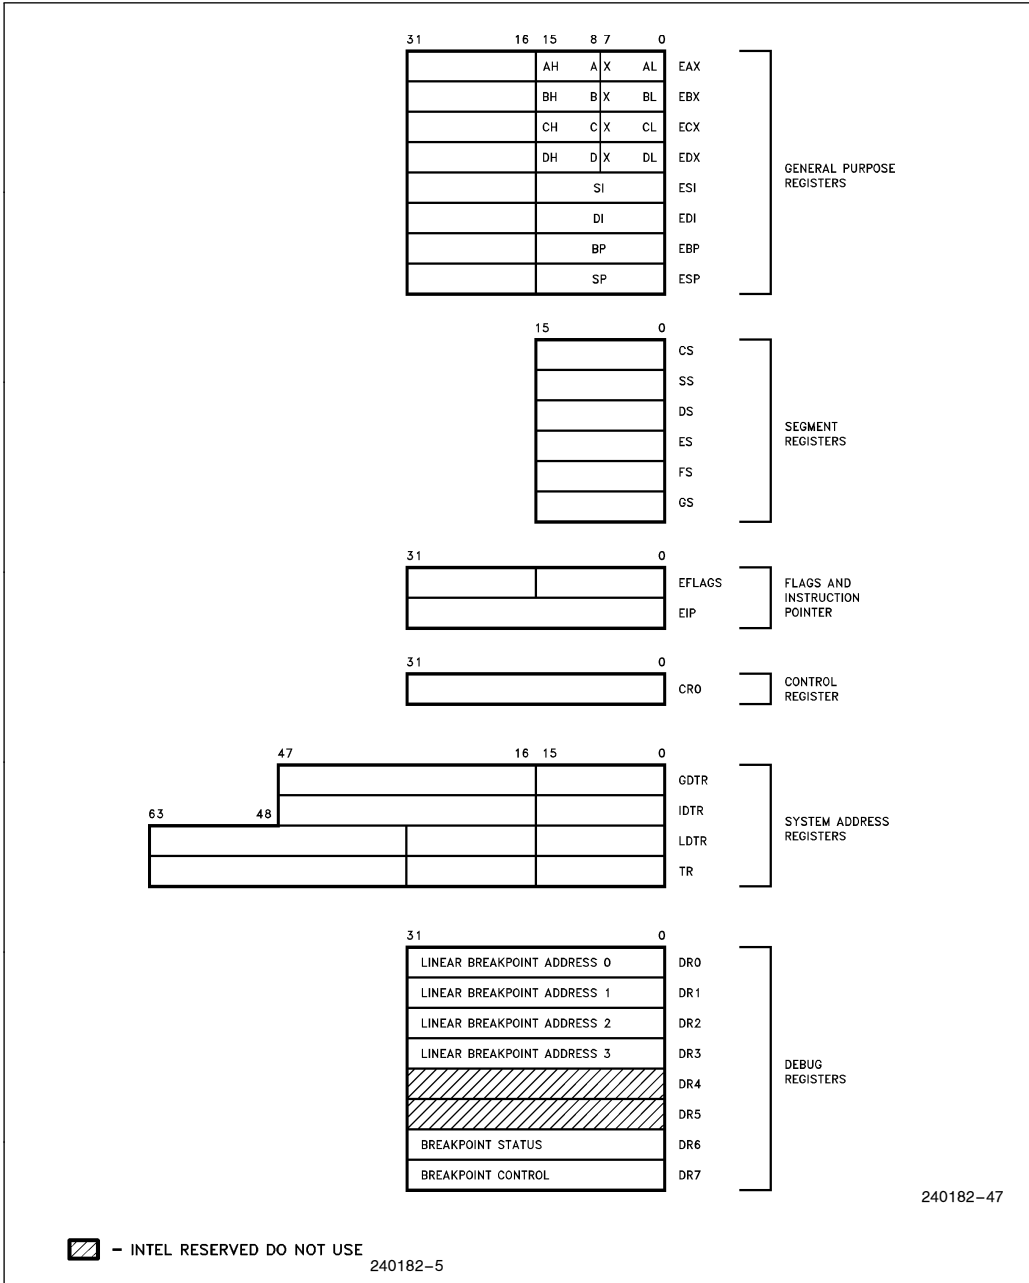

Figure 2.1. 80376 Base Architecture Registers
The 80376 has twenty-nine registers as shown in Figure 2.1. These registers are grouped into the following six categories:
**Flags and Instruction Pointer Registers:** These two 32-bit special purpose registers in Figure 2.1 record or control certain aspects of the 80376 processor state. The EFLAGS register includes status and control bits that are used to reflect the outcome of many instructions and modify the semantics of some instructions. The Instruction Pointer, called EIP, is 32 bits wide. The Instruction Pointer controls instruction fetching and the processor automatically increments it after executing an instruction.